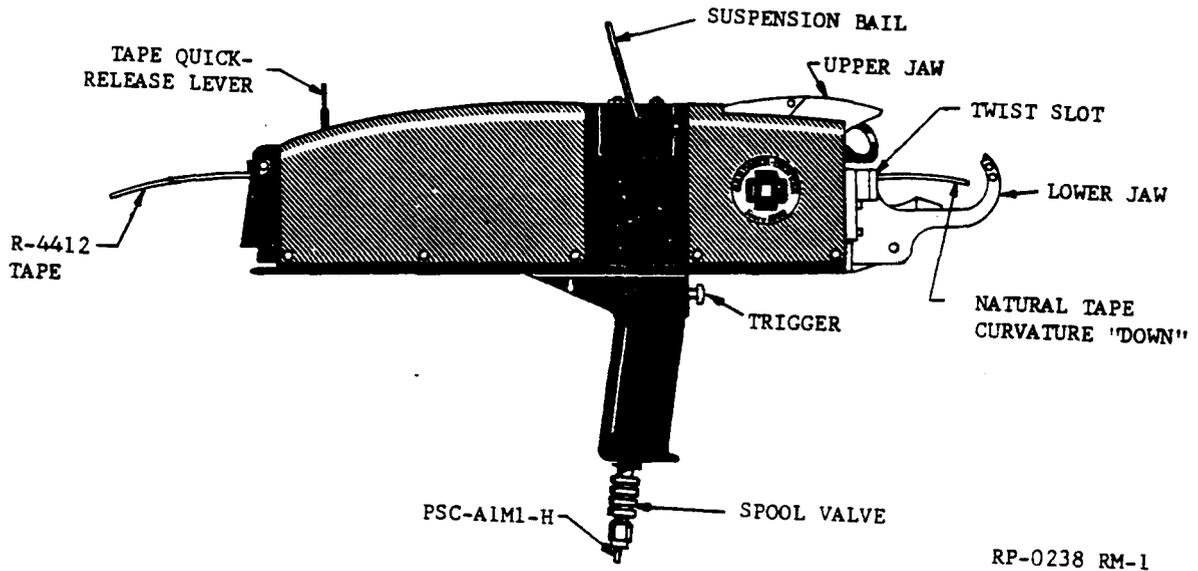

FIG. 7 R-4411 L1 PNEUMATIC BANDING TOOL
5.55 Flip up the tape quick release lever and insert the prepared tape end into the beveled hole in the rear of the tool with the natural curvature of the tape positioned down. When the point reaches the inside of the twister slot (FIG. 7), it may be necessary to work the tape in and out a few times to thread it into the slot. It is not necessary to remove the closure blocks when tape loading.